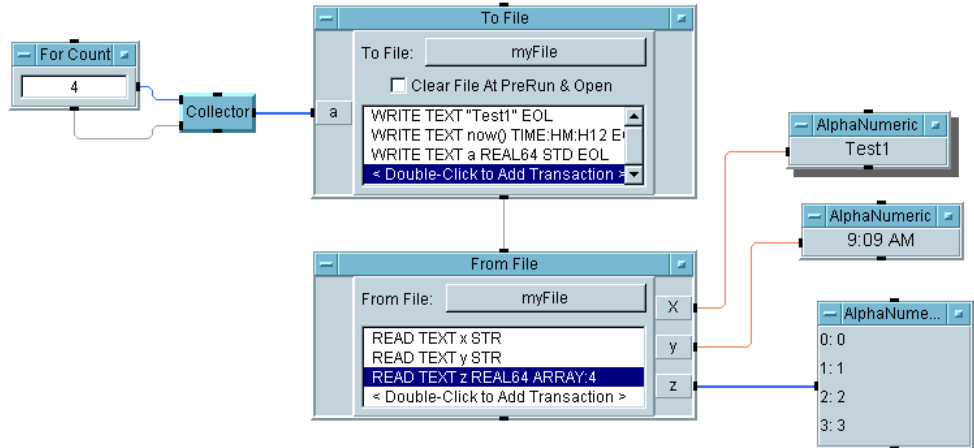

Figure 5-8. Retrieving Data Using the From File Object
8. Run the program. It should look like Figure 5-8.